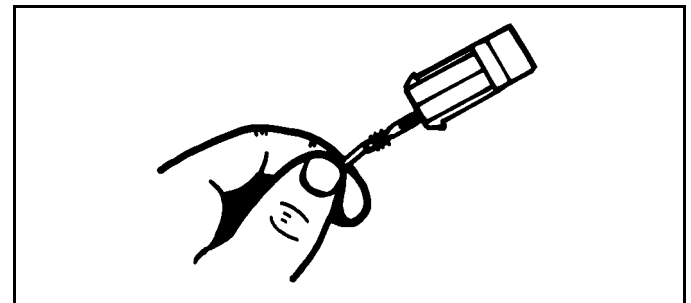

Figure 3-14
7. Push contact into new connector body until fully seated. (See Figure 3-14)